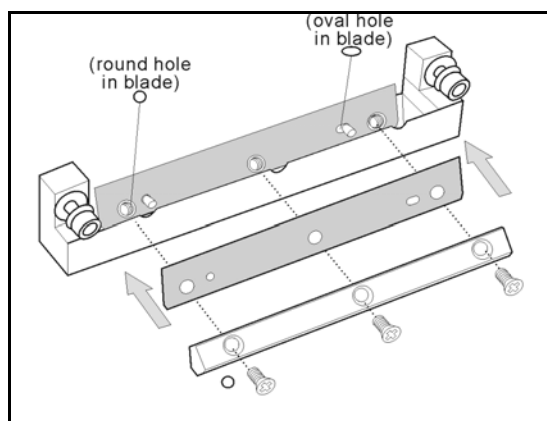

Figure 6-35: Inserting the new roller scraper blade
- Tighten the screws in the order shown in figure 6-35.